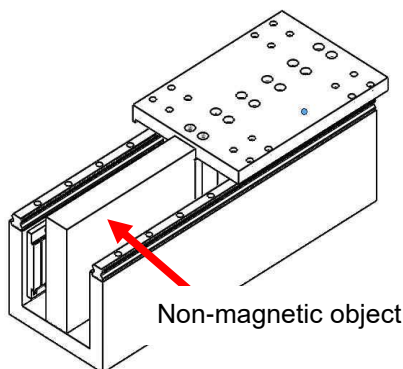

Figure5.1-24 Place the non-magnetic object
- ▶ Place the non-magnetic object between the installation surfaces of the stators at two sides. (refer to Figure5.1-24)